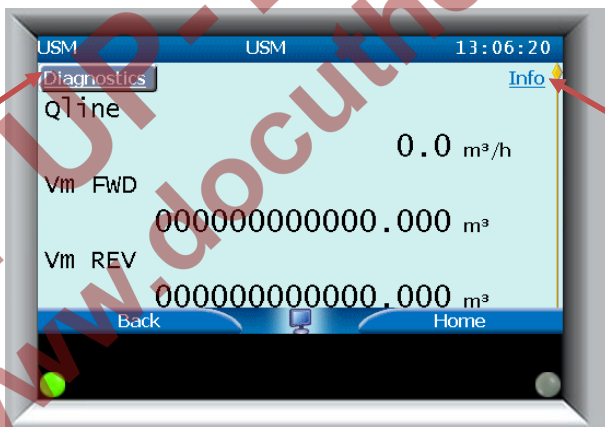

Figure 7-3: Basic Display/USM
The basic display is shown below in Figure 7-3 and displays the following values:
Along the top of the basic display page you will see the sub-menus **Diagnostics** and **Info** marked with red arrows in Figure 7-3. You have to scroll to the top of the page to view or select these sub-menus. For more information on Diagnostics, as well as the two submenus from this screen, please see ⇒ Chapters 7.5 Diagnostics (p.43) and 7.6 Info (p.50), respectively.
Pressing the **Home** button from the **Basic Display** (as seen in Figure 7-3) will bring you to a screen as depicted below in Figure 7-4.
- ▶ From the **Basic Display** screen, scroll to the top of the page and highlight the **Diagnostics** field in the top left hand corner. (See Figure 7-3)